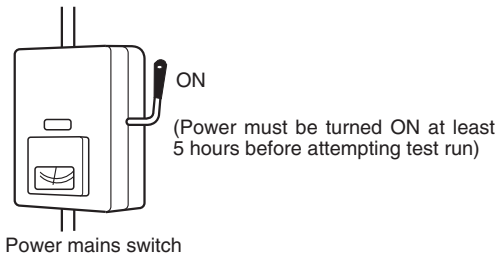

Fig. 9-1
- (1) All loose matter is removed from the cabinet especially steel filings, bits of wire, and clips.
- (2) The control wiring is correctly connected and all electrical connections are tight.
- (3) The protective spacers for the compressor used for transportation have been removed. If not, remove them now.
- (4) The transportation pads for the indoor fan have been removed. If not, remove them now.
- (5) The power has been supplied to the unit for at least 5 hours before starting the compressor. The bottom of the compressor should be warm to the touch and the crankcase heater around the feet of the compressor should be hot to the touch. (Fig. 9-1)